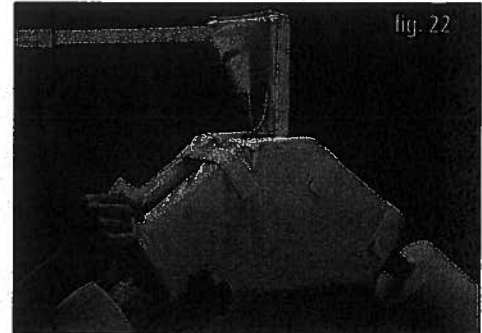

fig. 22
STEP 1: Attach all padding to bed frame as shown (See figs. 22 and 23).